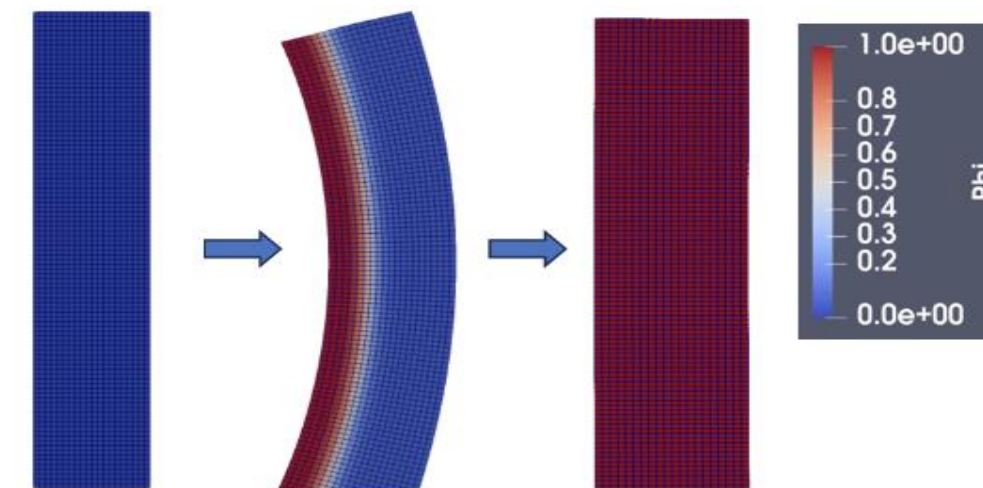

Fig. 5: Demonstration of photomechanical material bending using computational model
- Ran a MATLAB code given by my Mentor to visualize bending effect similar to the experiments (Fig. 5).